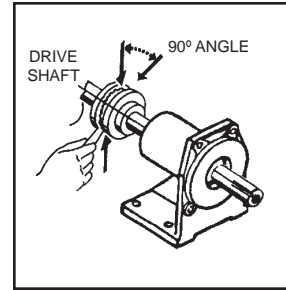

FIGURE 6
8. To avoid angular misalignment, insert a measuring device (taper gauge or feeler gauge) between the coupling faces at four locations 90° apart (see arrows in Figure 6) and measure the gap at each of the four locations. For proper alignment all four measurements should be equal. Reshimming may be required to achieve this alignment.